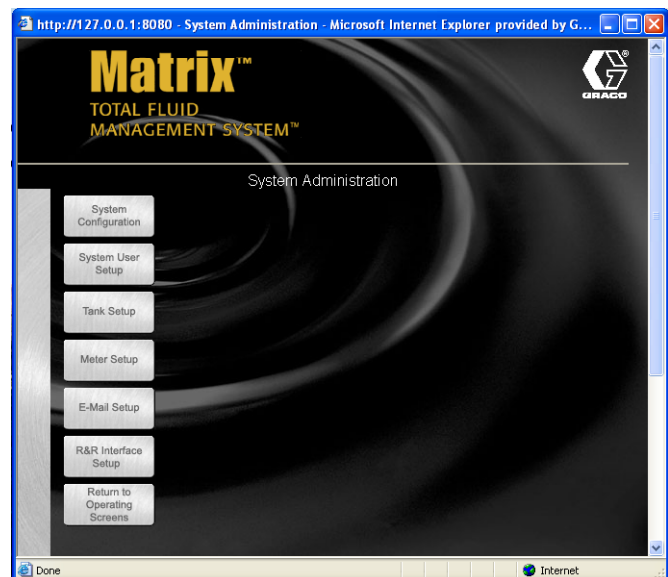

FIG. 62 System Administration Screen
1. Key in your user information and click **Submit**. For initial log on only, type in **matrix** (lowercase) for user name and **graco** (lowercase) for the password. Click **Submit**. Once the initial log on information is authenticated, the System Administration screen appears (FIG. 62).